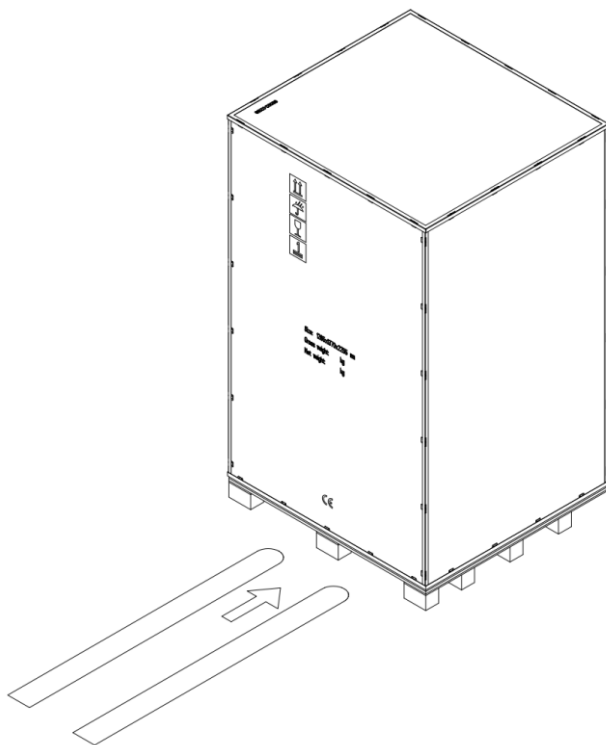

Figure 3-26 Transport the equipment to the designated location
Step 2: Use a forklift to transport the equipment to the designated location, see Figure 3-26;